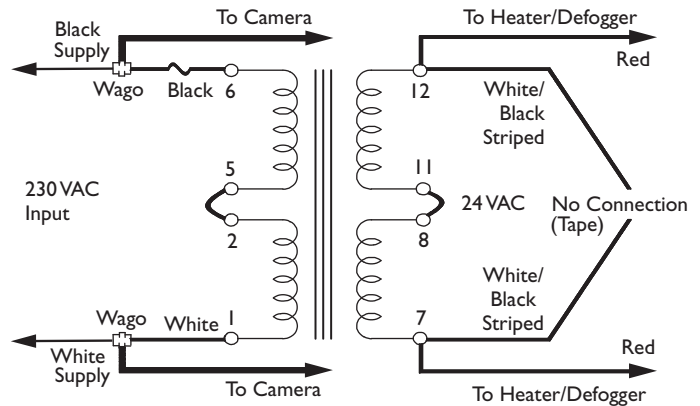

Figure 5 HS9384-5HP Transformer Wired for 230 Volt Camera
1. Installing a 230 volt camera into the HS9384-5HP housing requires inserting both the field supply wire (115 VAC) and a section of hook-up wire (not included, minimum 20 AWG wire) into the unused side of the Wago connectors (provided), then connecting the other end of the hook-up wire to the camera's 230 VAC input. Repeat for pins 1 and 6. (see **Figure 5**).
2. The secondary flying leads (white/black striped) will not be used in this application and should be taped to prevent shorting. See wiring diagram **Figure 5** for clarification.